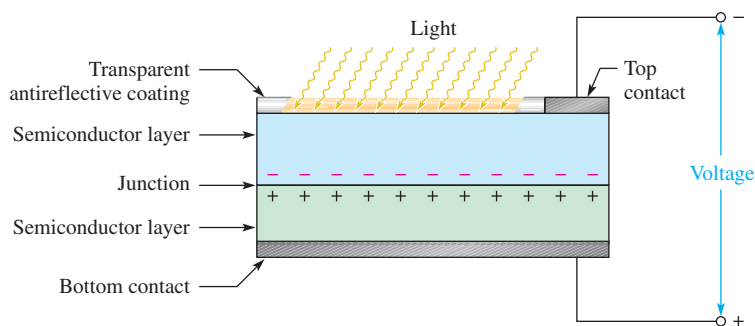

FIGURE 13
**Solar Cells** The operation of solar cells is based on the **photovoltaic effect**, which is the process whereby light energy is converted directly into electrical energy. A basic solar cell consists of two layers of different types of semiconductive materials joined together to form a junction. When one layer is exposed to light, many electrons acquire enough energy to break away from their parent atoms and cross the junction. This process forms negative ions on one side of the junction and positive ions on the other, and thus a potential difference (voltage) is developed. Figure 13 shows the construction of a basic solar cell.